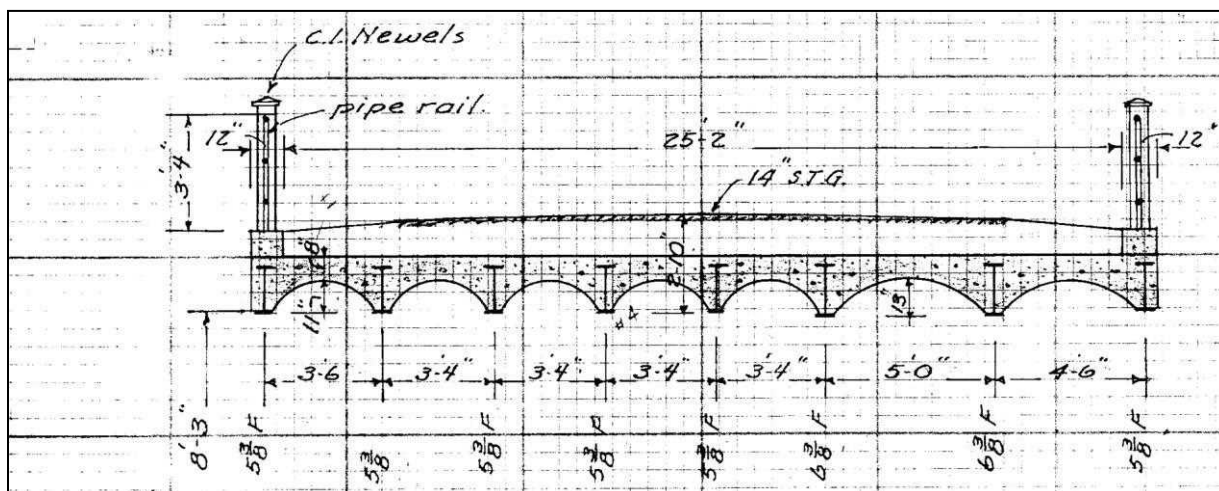

FIGURE 27: Bow 135/160 Turkey River Bridge (1911). Section drawing (NHHD Bridge Inventory Card).
- FIGURE 27: Bow 135/160, Turkey River Bridge, 1911, drawing.